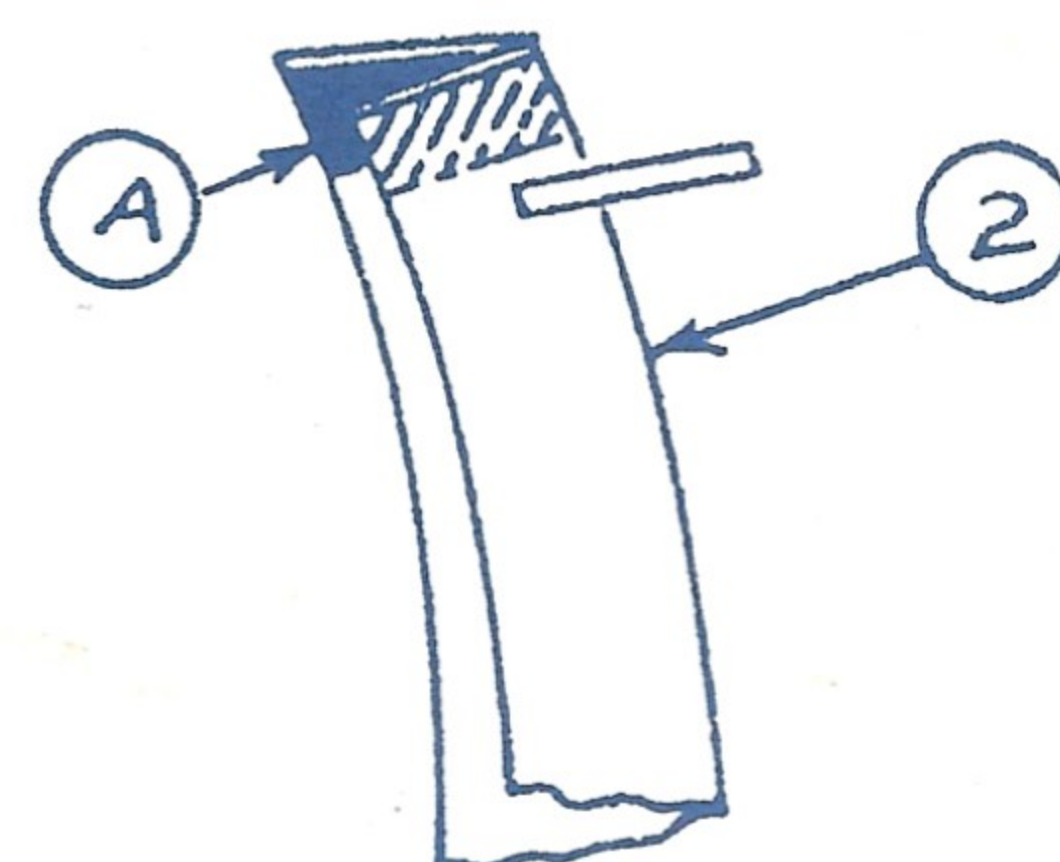

FIG. 2
- 1.) On 15' and 20' double-end canoes, use the rudder adapter (2) as it is furnished. On the 13', 17', and 18' double-end canoes, insert a rubber pad (A) in each end of the rudder adapter (2), as shown in Fig. 2. (Remove the paper backing and place the sticky side against the adapter.)
- 2.) Place the rudder adapter (2) over the stern of the canoe so the hole is lined up with the tie shackle hole. Pin the adapter in place with the short pin and split ring (F). On the 15' and 17' square stern canoes, remove the motor pad and fasten the diamond shaped adapter to the transom with the bolts and wing nuts. The wide part of the adapter should be on top. Your kit will contain either the curved adapter or the diamond shaped one depending on your canoe.
Position the adapter plates inside the mast thwart so that the gunwale holes are exposed at the edge. Insert the 1/4-inch diameter machine screw through the mast thwart and the proper hole in the adapter plate, see Fig. 2, add the washer and lock nut. Do not tighten at this time. Repeat with the other adapter plate.